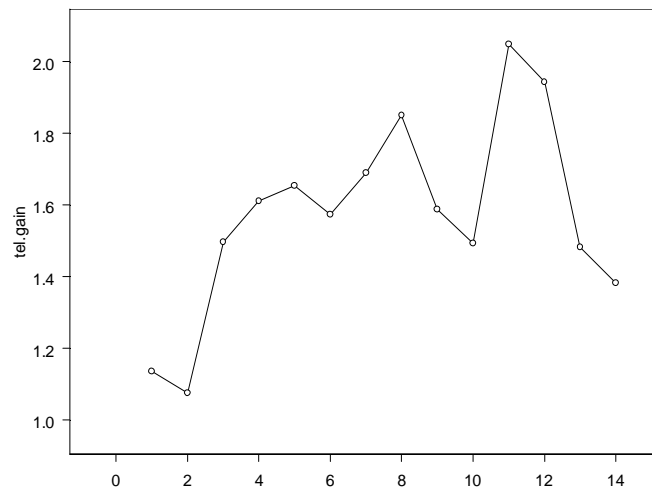

Figure 3.21: *Line with points plot of tel.gain.*
2. Click the **Line Scatter** button  on the **Plots 2D** palette. The resulting graph is shown in Figure 3.21.